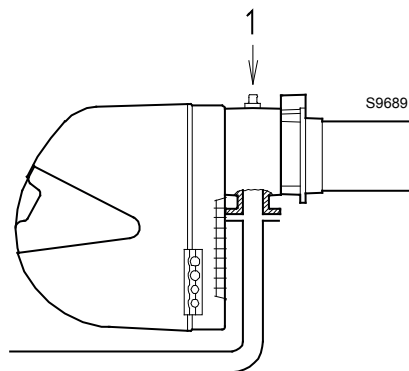

Fig. 29
Gas pressure measured at test point 1)(Fig. 29), with:
- subtract the combustion chamber pressure from the gas pressure measured at test point 1) (Fig. 29).
Gas pressure at test point 1) (Fig. 29) = 9.3 mbar
To calculate the required gas pressure at test point 1)(Fig. 29), with the output fixed at that required for the burner in the 2nd stage:
- Read, on the right (column 1), the pressure at the test point 1)(Fig. 29).
pressure required at test point 1)(Fig. 29).